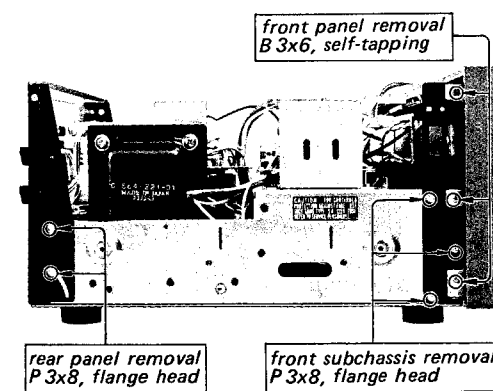

Fig. 2-2. Front panel, front subchassis and rear panel removal
3. Remove the six self-tapping screws (B 3x6) from both sides of the front panel bracket as shown in Fig. 2-2.
3. Remove the six flange head screws (P 3x8) from both sides of the front panel bracket as shown in Fig. 2-2.
2. Remove the four flange head screws (P 3x8) from both sides of the rear panel as shown in Fig. 2-2.